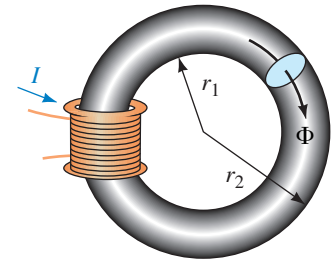

FIGURE 12-42
10. Consider again Figure 12-42. If $I = 10$ A, $N = 40$ turns, $r_1 = 5$ cm, and $r_2 = 7$ cm, what is H in ampere-turns per meter?